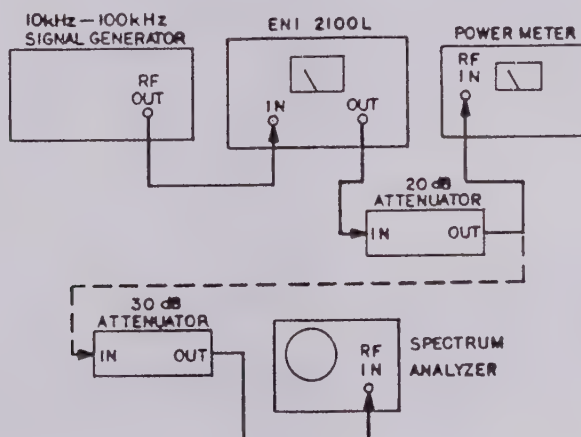

Figure 4-3.
- 2.) Connect the Equipment as shown in Figure 4-3, then proceed as follows: